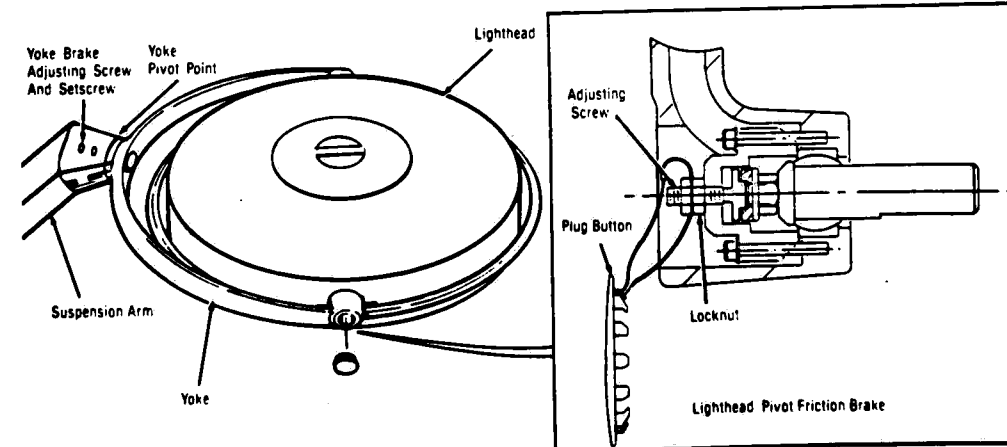

Figure 4-10. LIGHTHEAD BRAKE ADJUSTMENT.
4.8.2 Lighthouse Brake Adjustments (See Figure 4-10)